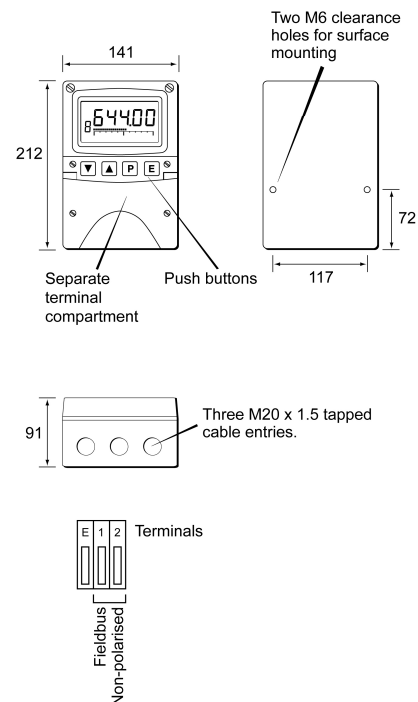

Fig 3 Dimensions and terminal connections
- Connect the field wiring to the terminals as shown in Fig 3.
When used as a fieldbus listener the BA644DF-P is not visible to the fieldbus host and can only be configured using the front panel push buttons shown in Fig 3.